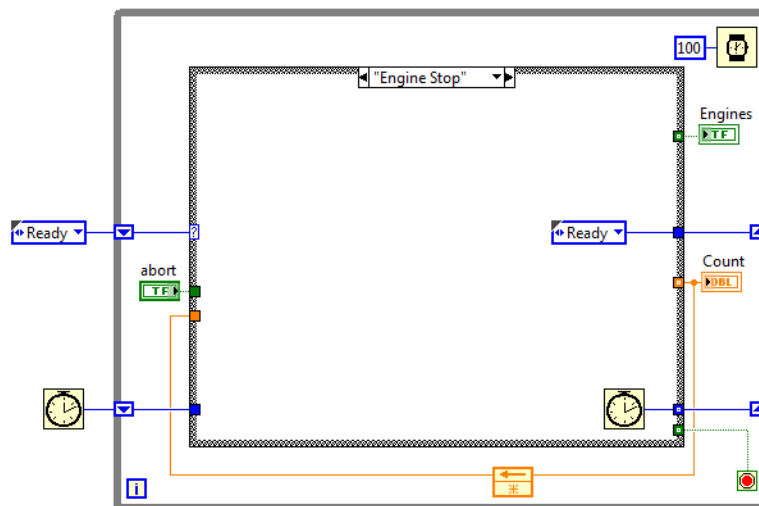

FIGURE 2.13 The Engine Stop state with a reset of the 10 second timeout.
6. We have one last step. The Engine Stop state transitions to the Ready state. When we do that, we want to re-start the 10 second timeout. So read the millisecond clock and feed that new value to the shift register, as shown in Fig. 2.13.